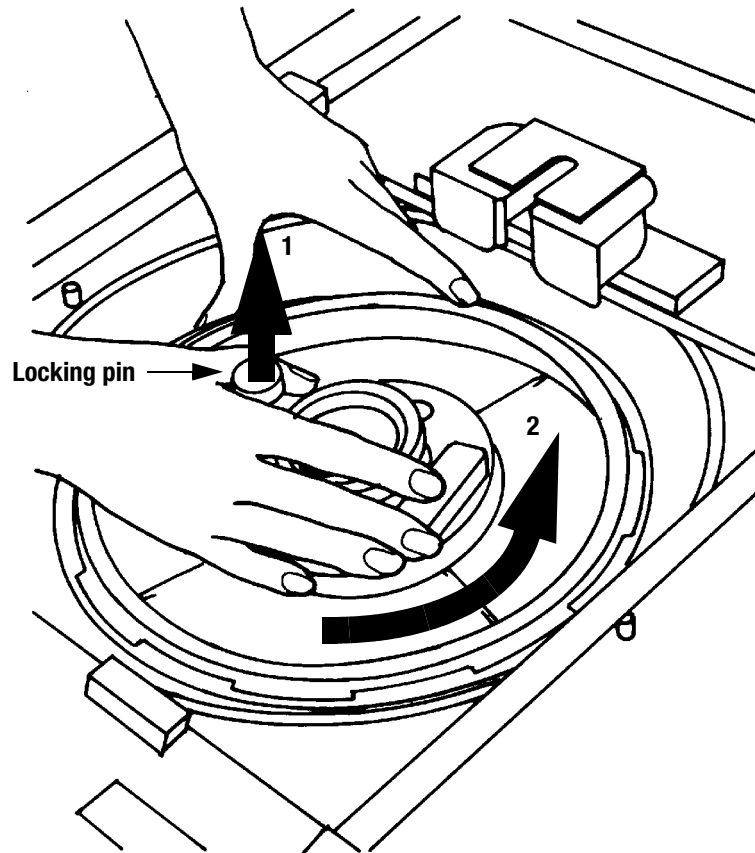

Figure 6-5: Removing the centrifuge bowl cover
- 18** Remove the centrifuge bowl cover by lifting up on the locking pin and rotating the cover counterclockwise while holding the centrifuge bowl to prevent it from turning (Figure 6-5). When the cover tabs are free of the centrifuge bowl slots, lift the cover off.